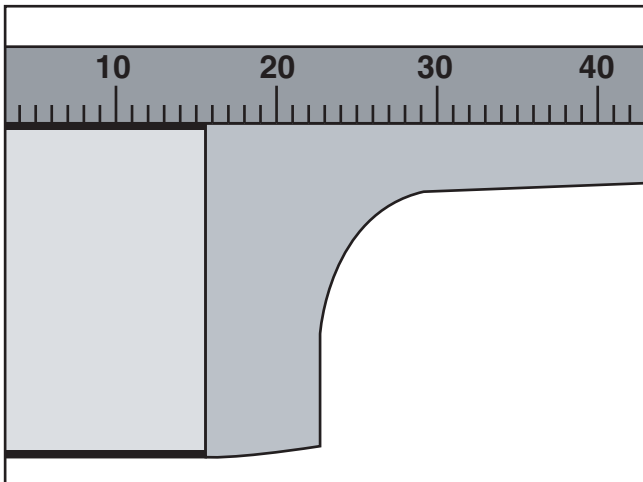

Figure 3. Checking flatness.
3. Using a straightedge, make note of any portion of the neck protruding above the surface of the body (**Figure 3**).